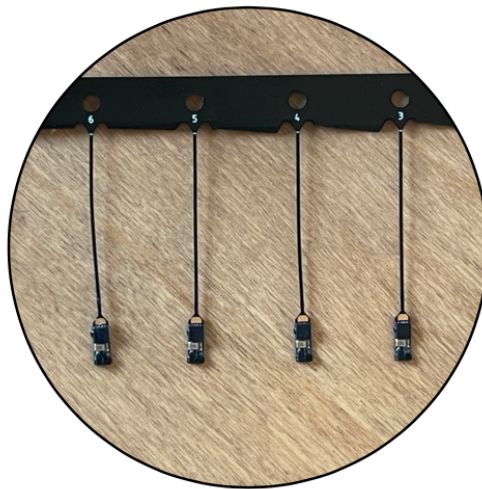

Figure 3: *Fig 3. The underside of the BlūMorpho tag showing the reference “Panel ID numbers” along the top of the Panel*
- In Fig 3 you'll see the same tags, but from the component side (the underside of the tag). Here you can see the Panel ID numbers on the panel strip. These numbers are your reference to the full Tag Digital ID # that will show up on your receiver. Make sure you note these for your records, as the tag's ID is **NOT** printed on the tag itself.